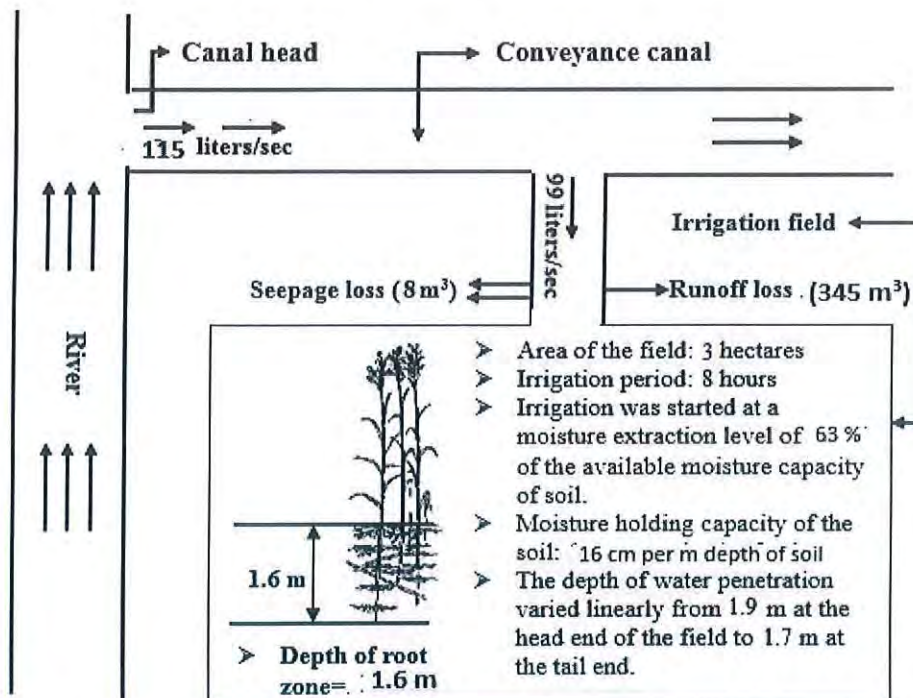

Figure 3
- b) By analyzing the data and information provided in **figure 3**, find out the following: 8